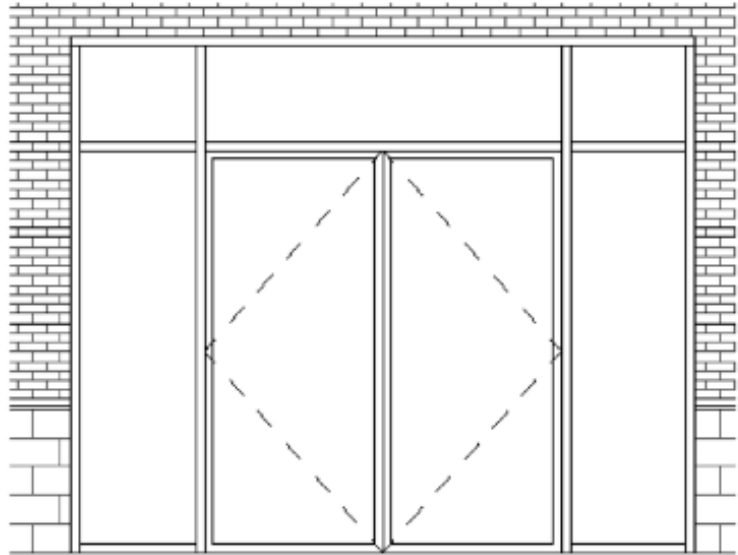

Figure 6-41
4. In the Type Selector, select **Door-Curtain-Wall-Double-Storefront**. The panel changes to the door. Delete the mullion at the bottom of the door, as shown in Figure 6-41.